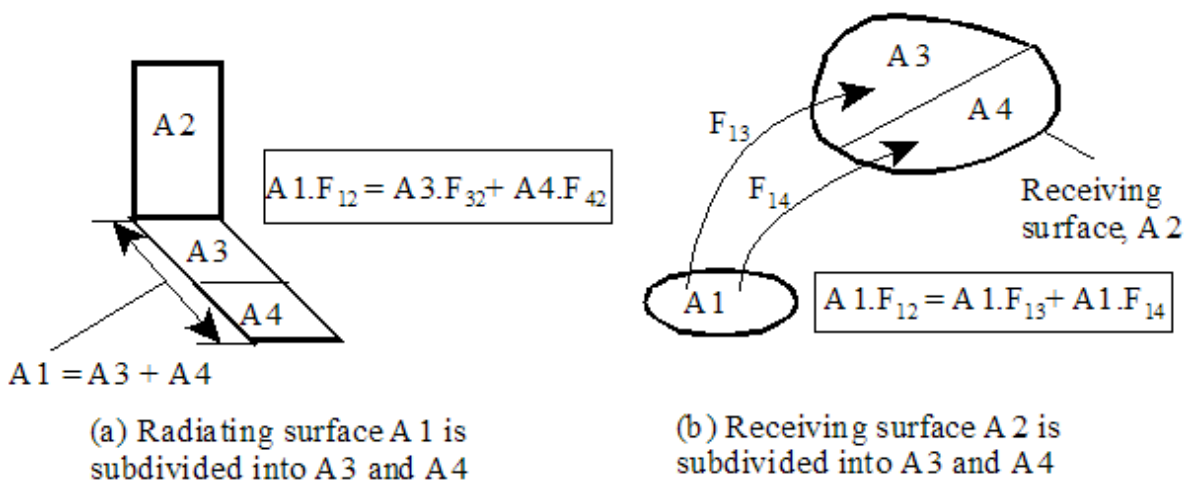

Fig. 13.15 View factors for subdivided surfaces
- 7) When the radiating surface 1 is divided into, say, two sub-areas A₃ and A₄, as shown in Fig. 13.15(a), we have:
- 8) Instead, if the receiving surface A₂ is sub-divided into parts A₃ and A₄ as shown in Fig. 13.15 (b), we have: